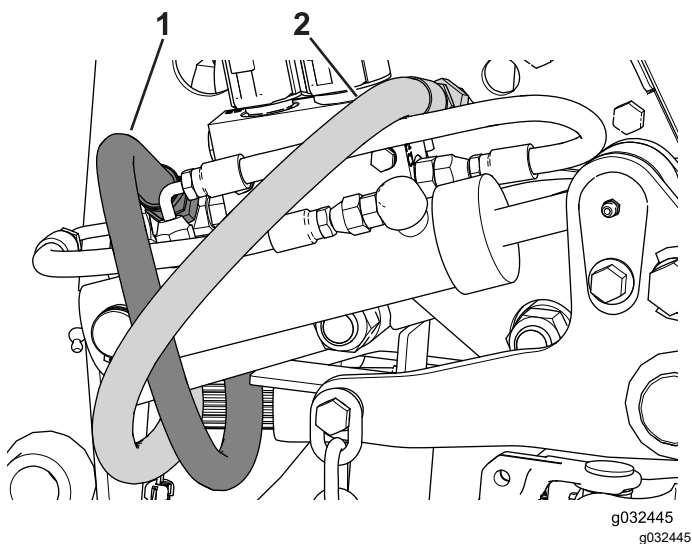

Figure 55
3. Place a suitable drain pan underneath the valve and disconnect the hydraulic hoses from the control valve (Figure 55).